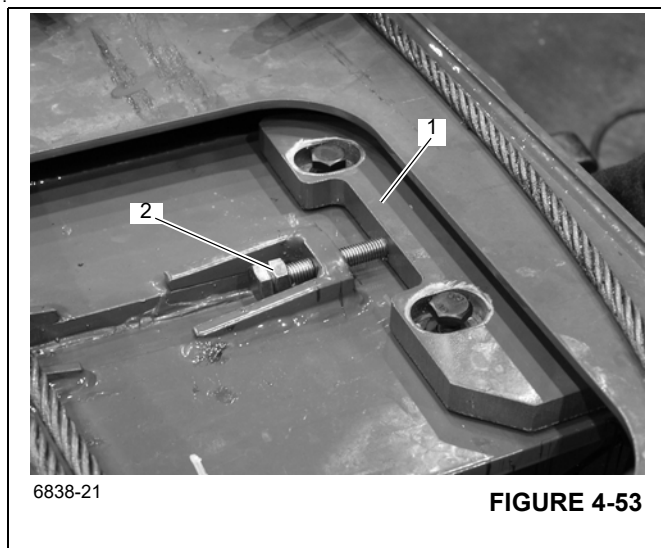

FIGURE 4-53
10. Insert the wear pads and pad holders (1), (Figure 4-53) on the left and right side of the fly section.
11. Measure and adjust the wear pads until the fly section is centered $\pm 1\text{mm}$ (± 0.04 inch) in the outer mid section. Apply Loctite® and tighten jam nut (2), (Figure 4-53).